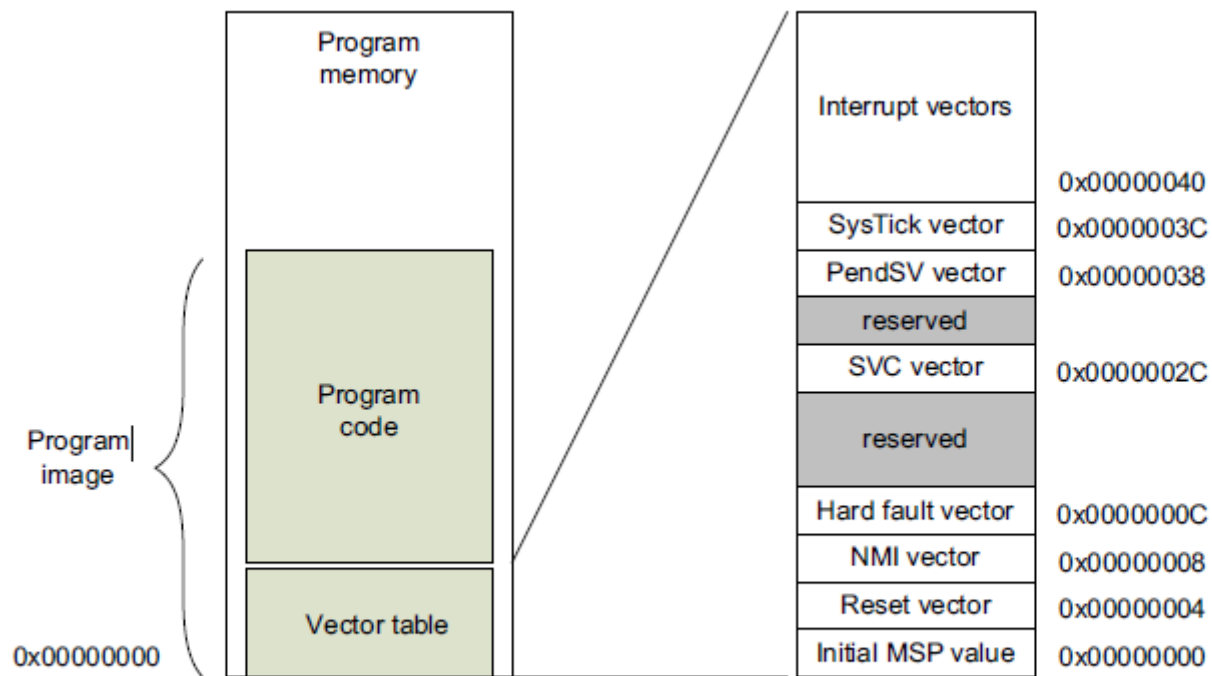

Figure 3.11:
- The beginning of the program image contains the vector table (Figure 3.11).